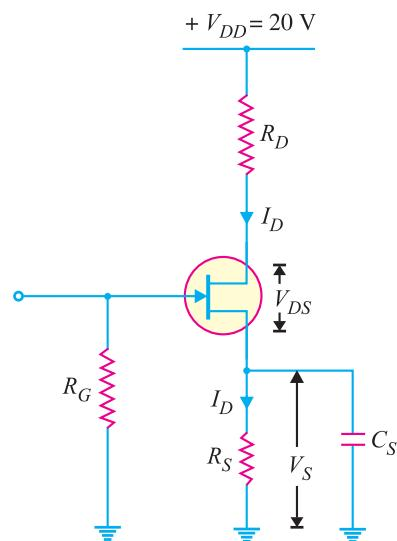

Fig. 19.23
**Solution.** Fig. 19.23 shows the circuit arrangement.